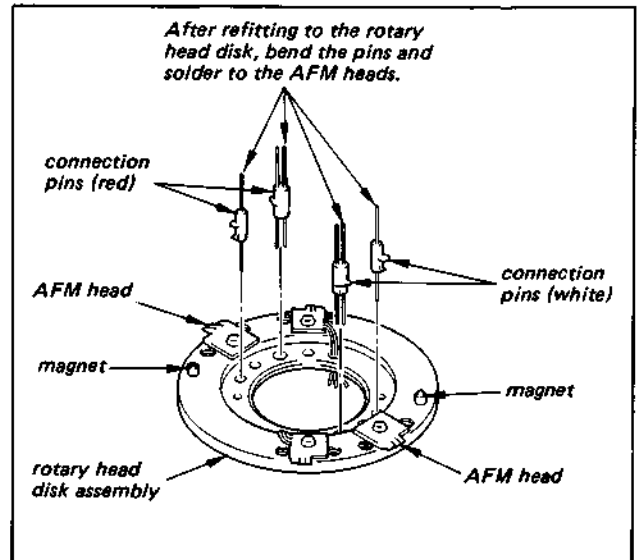

Fig. 3-5 How to refit rotary head disk (2)
- 2) Refit the four connection pins to the rotary head disk assembly (See Fig. 3-5).
- 3) Bend the connection pins and solder them to the AFM heads (See Fig. 3-5).